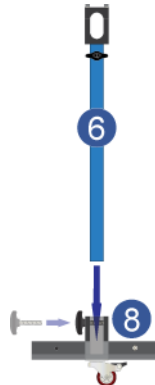

Figure 6 - ALT-930-2M Triple Loop Antenna Assembly – Step #2
**Step #2** Insert the 0.5-meter Vertical Center Post with Dual Loop Clamp **6** into the center hole of the Central Support Hub **8** as shown in Figure 6 until it reaches the bottom of the hole. Re-insert one of the finger-knob bolts removed in Step #1 through the center post and tighten to secure the center post firmly in place.